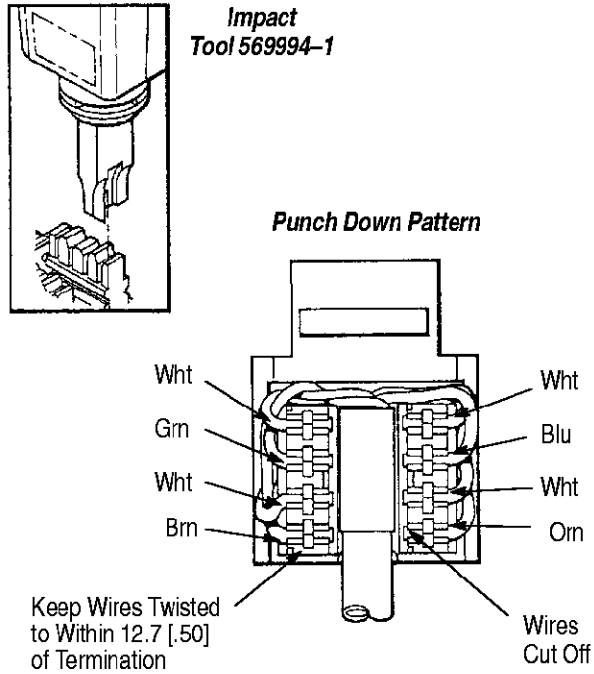

Figure 7
8. Pull orange pair and brown pair through openings on opposite sides. Bend wires around blocks and align them with appropriate color code slots (use minimum slack while maintaining twist). See Figure 7.